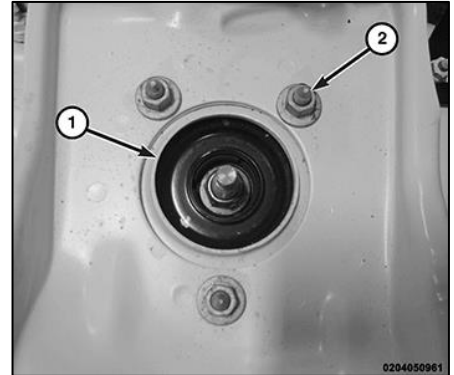

Figure 1
4. Remove three nuts (2) fastening shock assembly to shock tower (1). <Figure 1>